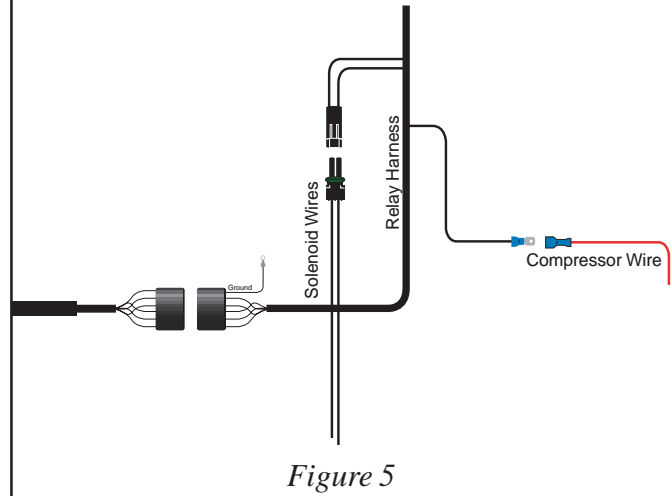

Figure 5
- Connect the red wire with the female terminal from the compressor to the male terminal coming from the relay wire (Figure 5).
- Connect the double terminal connector from the solenoid to the double terminal connector relay wires (Figure 5).